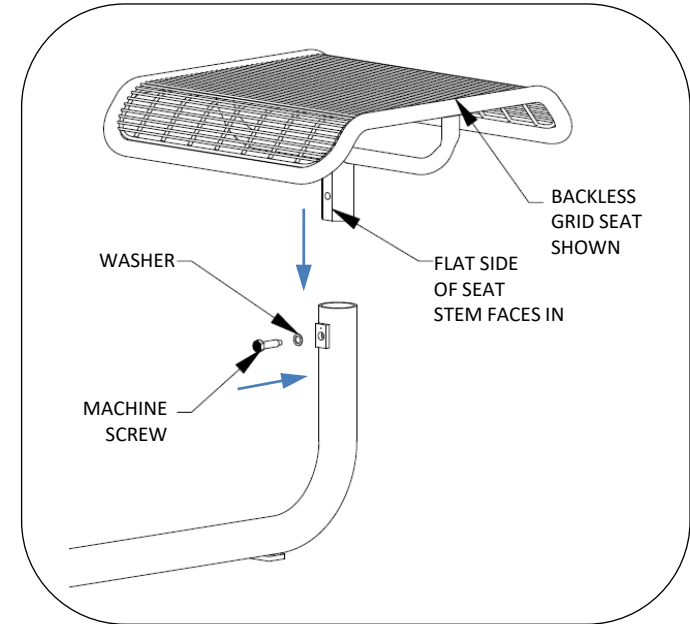

Fig. 6 – Install seat
**PROCEDURE FOR ASSEMBLING SEATS:** See Fig 6. This should be done after assembling supports to tabletop.